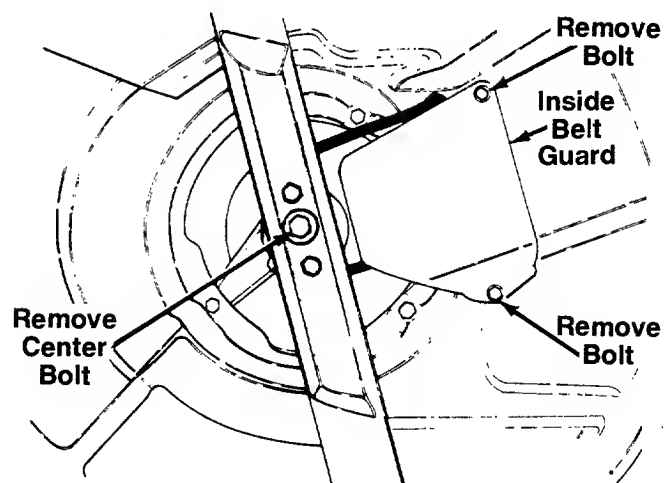

FIGURE 21.
5. Remove the center bolt which secures the blade to the crankshaft. See figure 21. Remove the blade, blade adapter and pulley half. Remove the belt.
6. Remove the inside belt guard by removing two self-tapping screws. A 3/8" wrench is required. See figure 21.